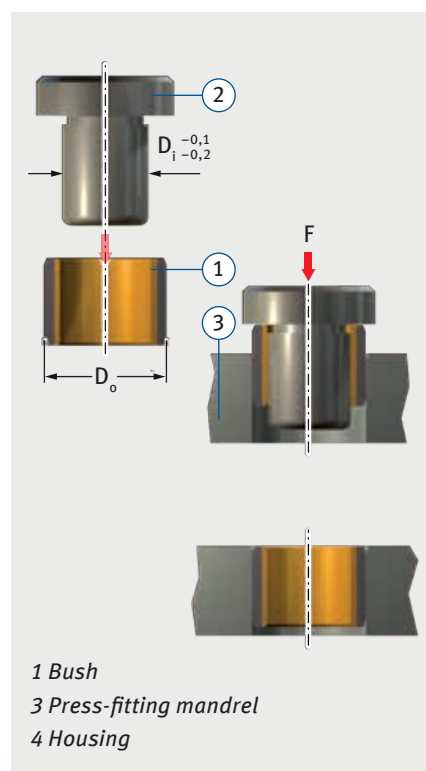

Fig. 2: Flush press-fitting $D_o \leq 55$ mm
- Flush press-fitting with mandrel, without auxiliary ring, as per Fig. 2.